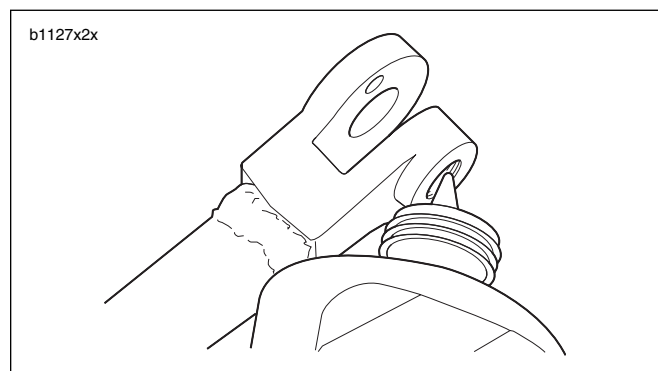

Figure 4. Threaded Area for Loctite Application
- b. See Figure 4. Apply LOCTITE 272 (Red) to threaded area (clevis) of sidestand leg.